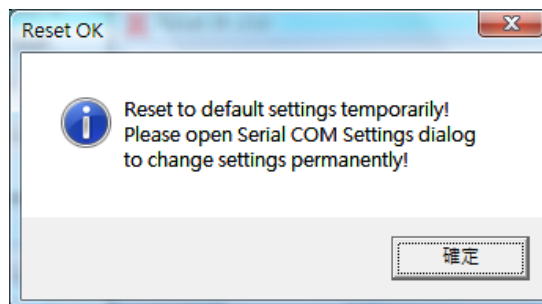

Fig. 3-7 Reset to default settings temporarily
(1) Connect PC to the RS-232 port of IR-210 and click “Open” button in the utility to open COM port.
(2) Power off and power on IR-210. Click Reset button within 3 seconds after power on.
(3) A dialog as Fig. 3-7 shows that the resetting to default values is done. Please note that the parameters resetting is temporary. Please go to “IR-210 Basic Settings” interface and click “Set Permanently” button to confirm the settings.